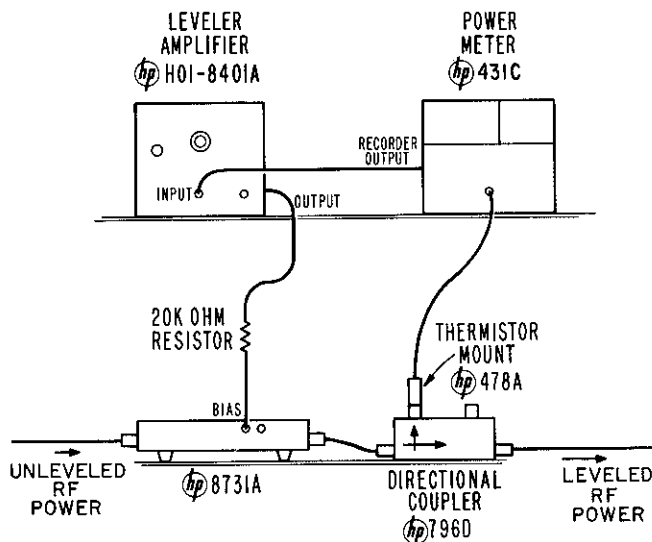

Figure 10. Typical Closed Loop Leveling System
27. LEVELING CAPABILITY. In a closed-loop leveling system involving a PIN Modulator, leveling capability depends entirely upon loop equipment. Hence, loop equipment should be selected on the basis of main line RF power levels and leveling requirements. In the closed-loop system shown in Figure 10 the flatness of leveling is determined primarily by the coupling variation of the directional coupler used. The Power Meter is used because it provides extra loop gain. In addition, with output coupling known, the main line output power can be read directly on the Power Meter allowing for coupling variation. The Leveler Amplifier used has a 0 to -27 Vdc output capability with output impedance of about 20K ohms, hence the 20K ohms series resistor makes it a bias current source providing a maximum 1.35 mA DC current (referring to Figure 5, this means that the maximum control range possible using an "A" model 8730 is between 12 and 20 dB depending upon the individual 8730 used). Typically, with the Power Meter and Leveler Amplifier combination, leveled power can be held constant with  $\pm 0.2$  dB (plus coupler variation) for RF swept frequency rates equal to or longer than 30 seconds/octave. In practice, slowest swept frequency
39. For certain applications, it may be desirable to level and amplitude modulate a given RF power level with the same PIN Modulator. This can be accomplished by simply setting up a closed loop leveling system and adjusting the reference attenuation level to a point equal to the peak amplitude of the desired modulating signal. For this type of dual application the modulating signal can be applied directly to the leveler amplifier in the system shown in Figure 10.